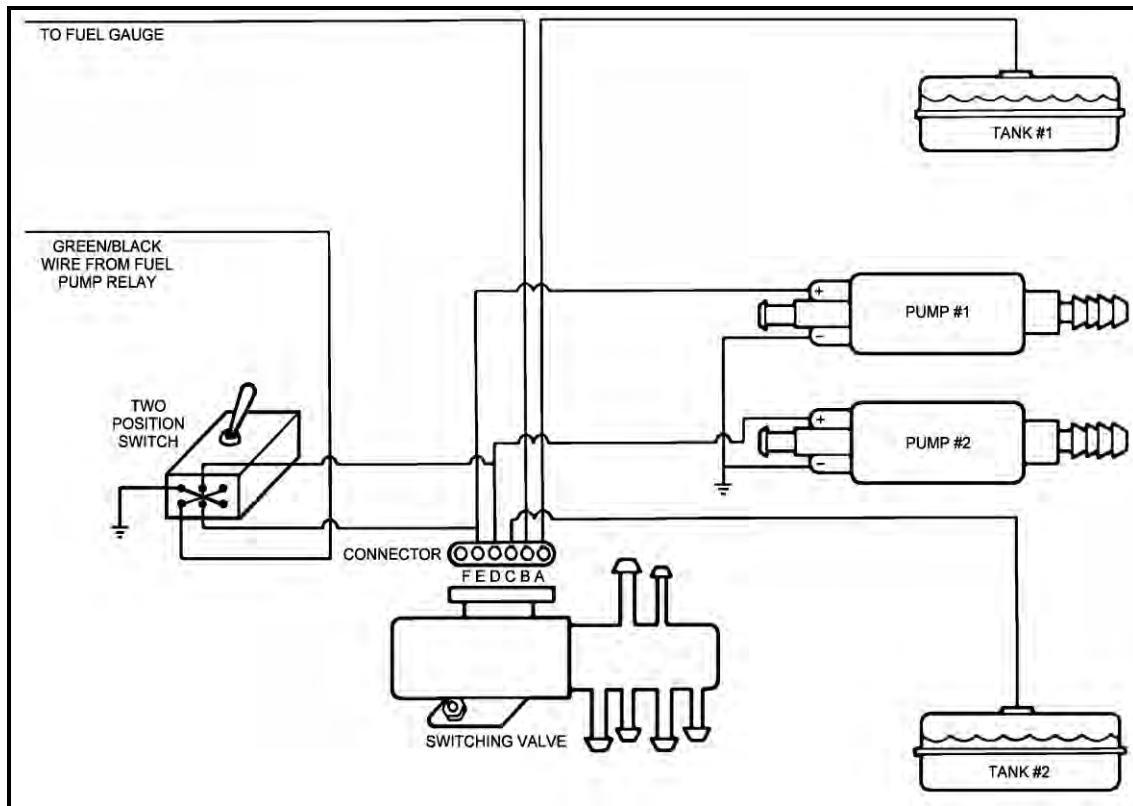

Figure 7
3. Mount the double-position, double-throw toggle switch, along with the relay under the dash if the vehicle is not already equipped with this type switch. Connect the electrical wiring, as shown in Figure 7 on the next page.
NOTE: Mount the double-position, double-throw toggle switch along with the relay under the dash if the vehicle is not already equipped with this type switch. Connect the electrical wiring, as shown in Figure 7 on the next page.